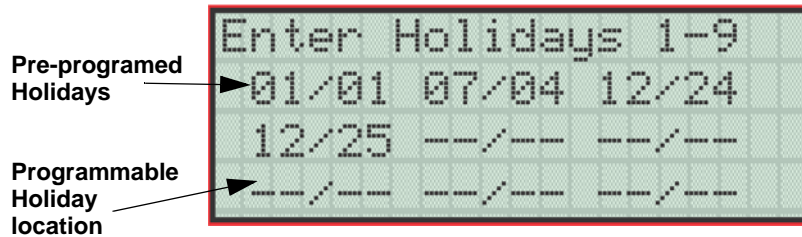

Figure 7-17 Edit Holidays Screen
4. Select **4** for Holiday Days. A screen similar to that shown in Figure 7-17 will display.